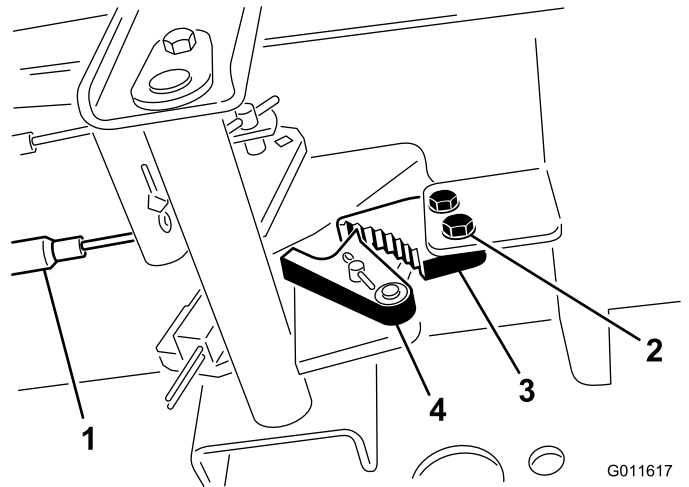

Figure 57
1. Loosen the 2 screws securing the parking brake pawl to the frame (Figure 57).
2. Press the parking brake pedal forward until the brake detent completely engages on the brake pawl (Figure 57).